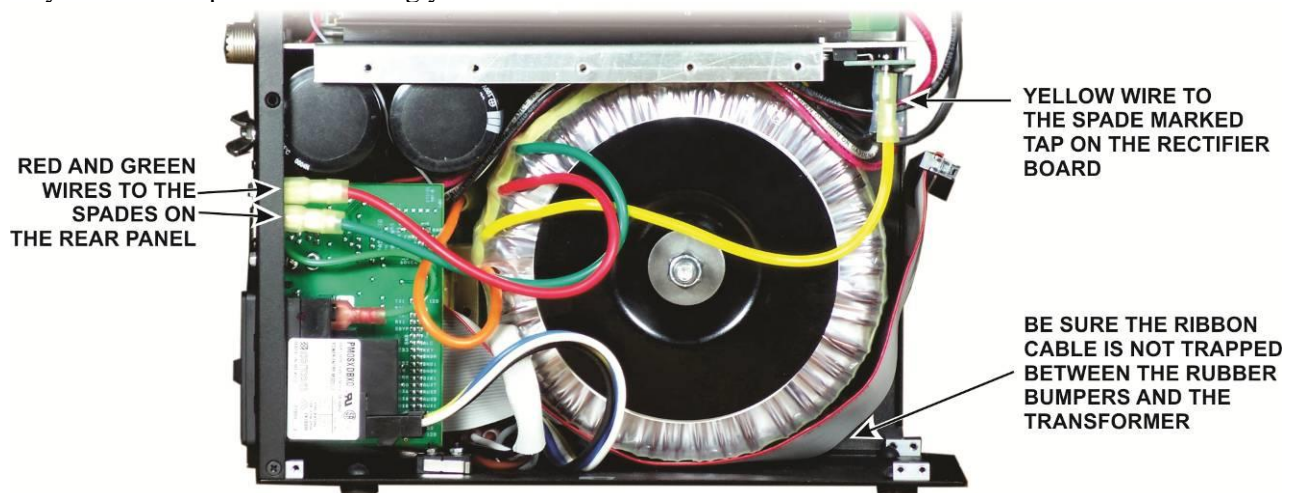

Figure 53. Connecting Transformer Taps.
- ❑ Set the KPA500 on its bottom feet. You should now have three loose transformer wires remaining. These are taps that are used to compensate for variation in your local mains voltage as described in your Owner's Manual. The active tap is connected to the rectifier board and the two unused taps are connected to the terminals on the rear panel to keep them out of the way and to avoid short circuits. Connect them as shown in Figure 53 until you have completed assembling your KPA500.